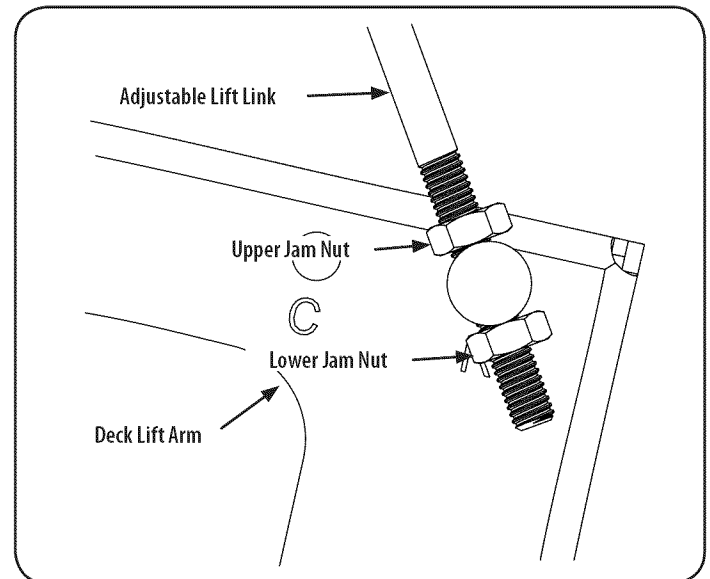

Figure 29
3. Loosen the lower jam nut on the adjustable lift link attached to the deck lift arm to lower the deck and tighten the upper jam nut to secure the deck in place, loosen the upper jam nut then tighten the lower jam nut to secure the deck in place. See Figure 29.